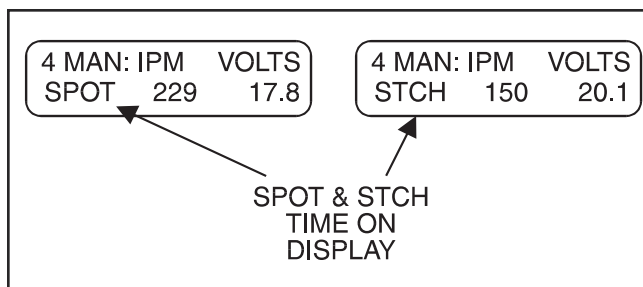

FIGURE B.2 - Display when Stitch or Spot Weld Timers are ON.
NOTE: If the spot or stitch timers are ON, it will be indicated in the bottom left corner of the display. See Figure B.2.
8. SPOT KEY: Press to turn ON the Spot Weld Timer and display the spot weld ON time. Pressing the SPOT KEY a second time returns the screen to the previous display without turning off the spot timer. Anytime the Spot weld timer is on and the display is in the Auto or Manual mode, the word SPOT will appear in the bottom left corner of the display. See **Figure B.2**.
9. STITCH KEY: Press to turn Stitch Weld timers ON and display the Stitch Weld ON and OFF times. Pressing the STITCH key a second time returns the screen to the previous display without turning off the stitch timers. Anytime the Stitch weld timers are on and the display is in the Auto or Manual mode, the abbreviation STCH will appear in the bottom left corner of the display. See **Figure B.2**.